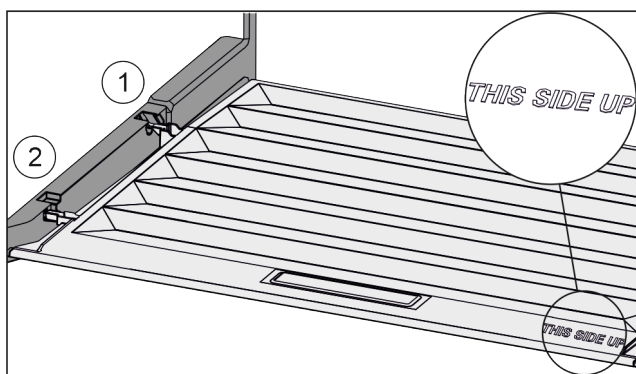

Fig. 32
- Insert the lip of the cover over the opening of the rear bracket Fig. 32 (1) and click into place Fig. 32 (2).